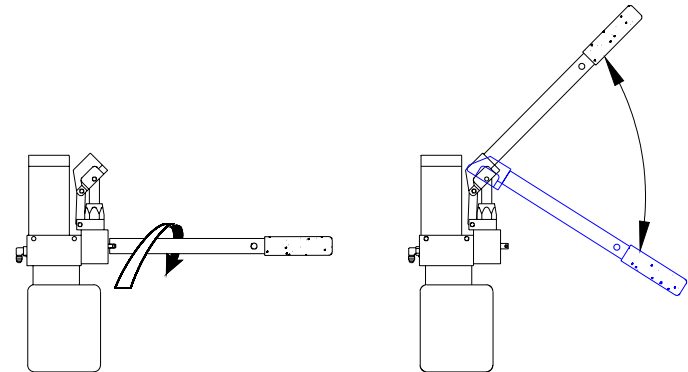

FIGURE 2-14: CLOCKWISE CLOSES RELEASE VALVE
- 1) Refer to **Figure 2-14**. Engage hydraulic system pressure release valve with notched end of pump handle, and rotate valve clockwise (turn lightly) to verify that it is closed (valve should have been closed previously).
- 2) Refer to **Figure 2-14**. Insert pump handle into socket on backup pump, and then pump handle until platform rises to vehicle floor height.